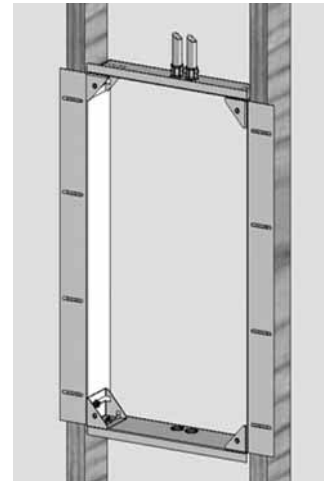

Fig 1.
1. Fit the pre-install bracket frame to the 2ft x 4 ft wooden studs by using suitable fixings (fixings not supplied). **See Fig 1**